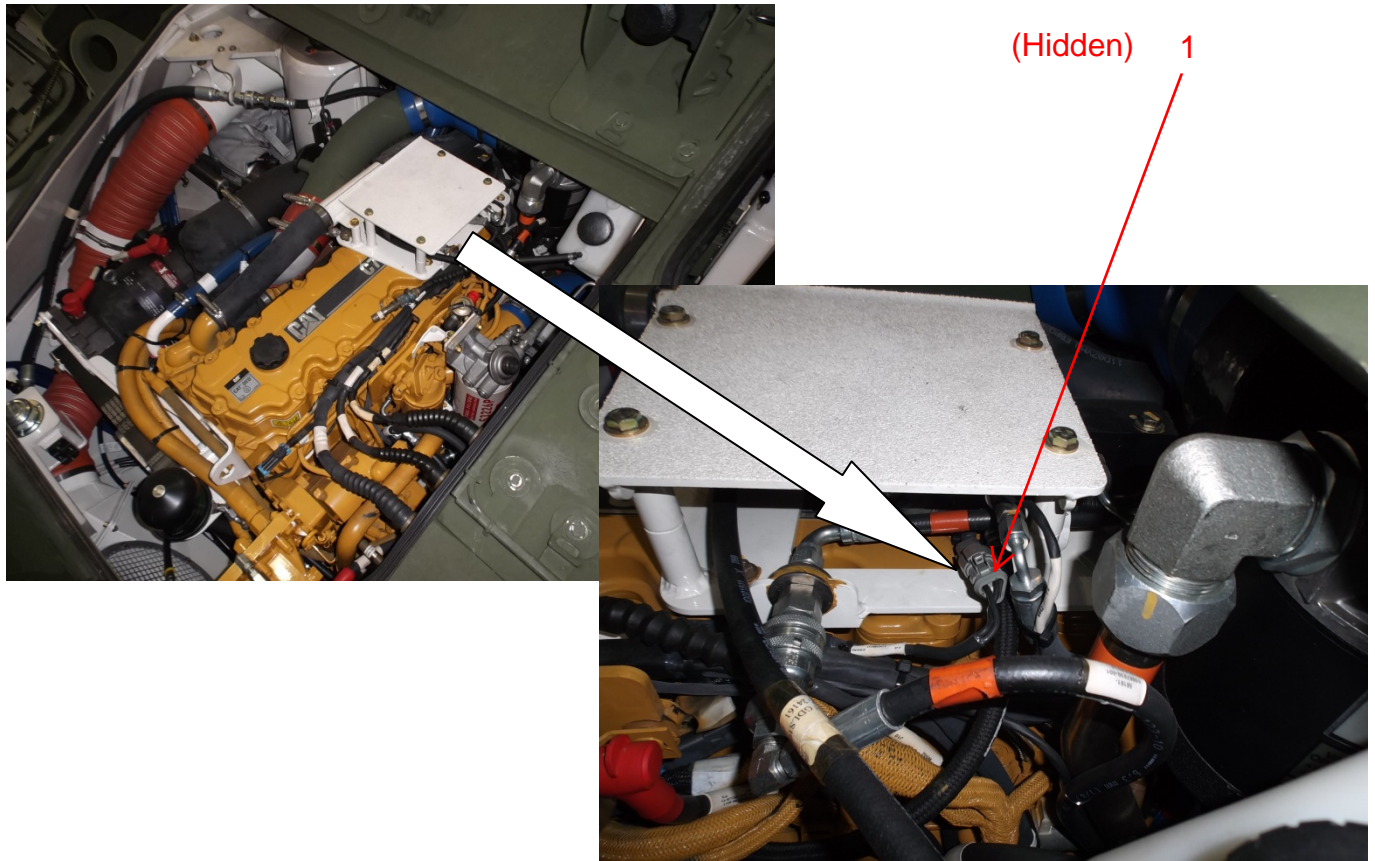

Figure 1. DVH C7 W552 P7.
2. Disconnect P7 of W552 (Figure1, Item 1) from On Board Oil Exchanger (OBOE) Controller connector.